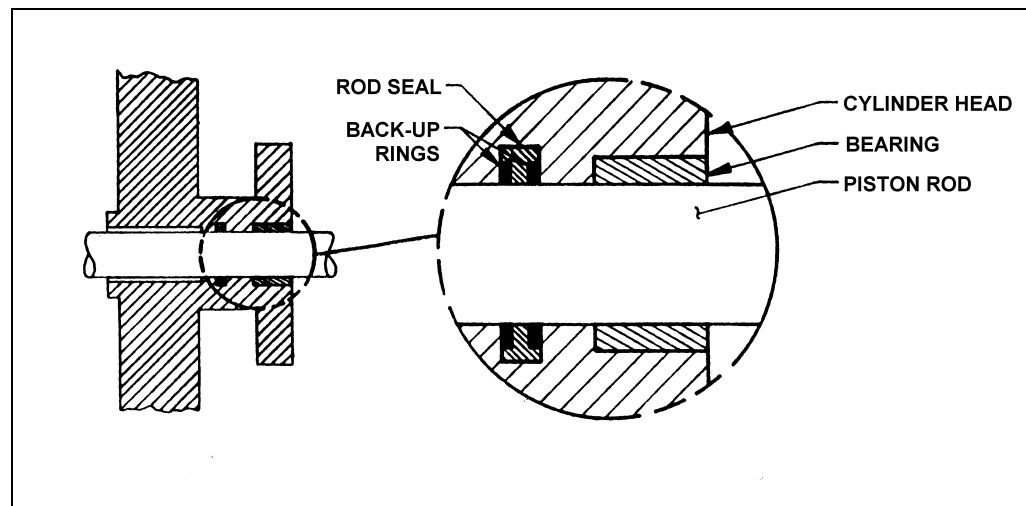

Figure 1 – Cylinder Component Identification
1. Lubricate the rod seal, then push it into place in the cylinder head as shown in Figure 1. The back-up rings are cut with a bevel; be sure the ends match up and do not overlap.